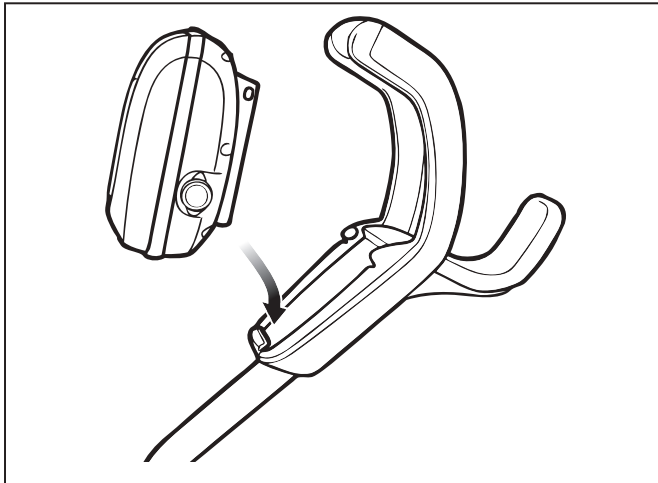

Figure 1. Align Control Box with Caddy Hook
1. Align the bottom of the control box with the notch at bottom of the control box hook on the caddy (Figure 1).